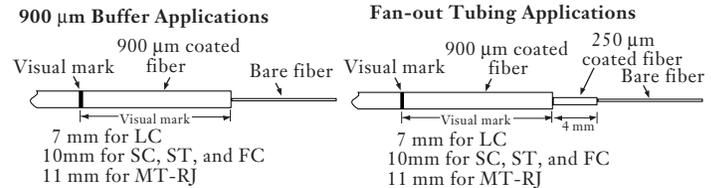

Figure 5
*Critical Note: Make the **visual mark** on the coated buffer (Figure 5). Later in the assembly process, this mark will provide you visual feedback that the field fiber has made contact with the stub fiber.*